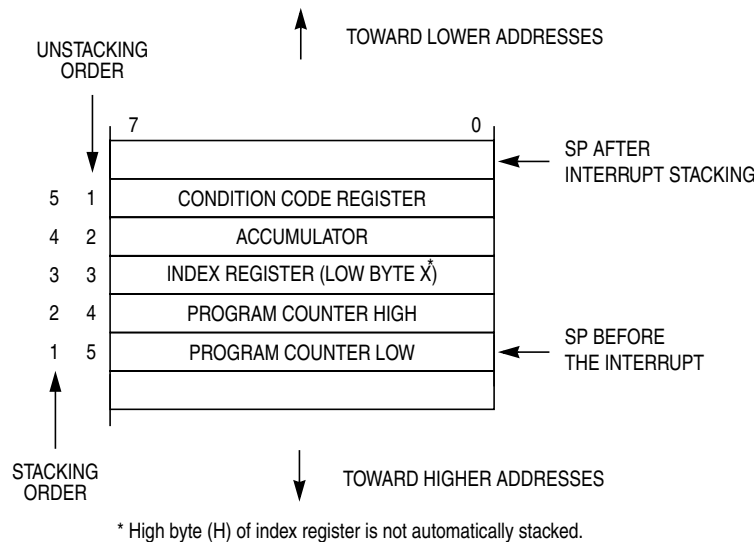

Figure 5-1. Interrupt Stack Frame
Figure 5-1 shows the contents and organization of a stack frame. Before the interrupt, the stack pointer (SP) points at the next available byte location on the stack. The current values of CPU registers are stored on the stack starting with the low-order byte of the program counter (PCL) and ending with the CCR. After stacking, the SP points at the next available location on the stack, which is the address that is one less than the address where the CCR was saved. The PC value that is stacked is the address of the instruction in the main program that would have executed next if the interrupt had not occurred.